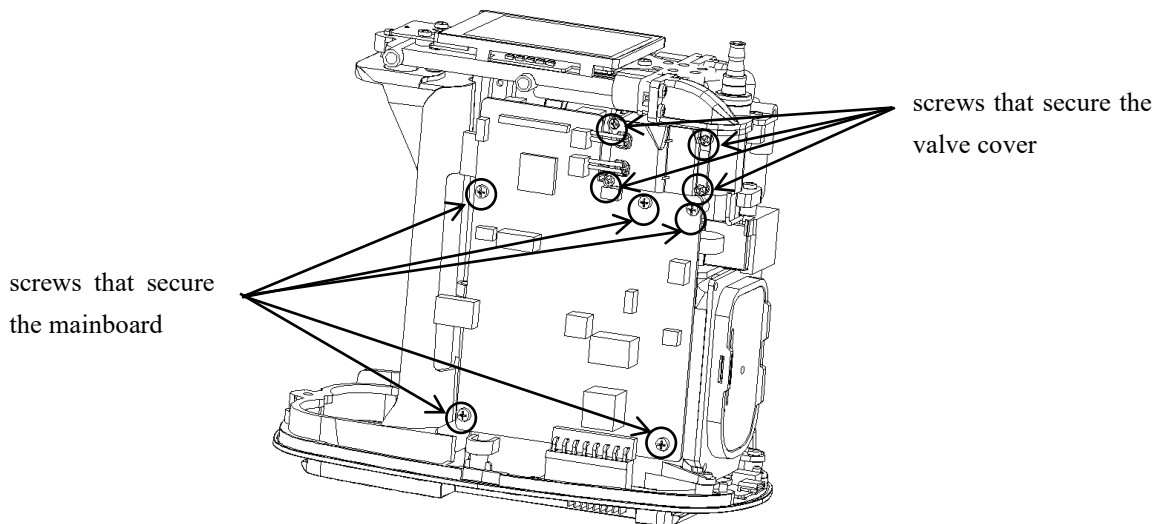

Figure 15 Replace the mainboard
1. Use a cross-head screwdriver to unscrew the four screws that secure the valve cover, and remove the valve cover (Refer to Figure 15).
2. Disconnect all wire harness connectors from the mainboard, and use a cross-head screwdriver to unscrew the five screws that secure the mainboard component. Remove the mainboard (Refer to Figure 15).